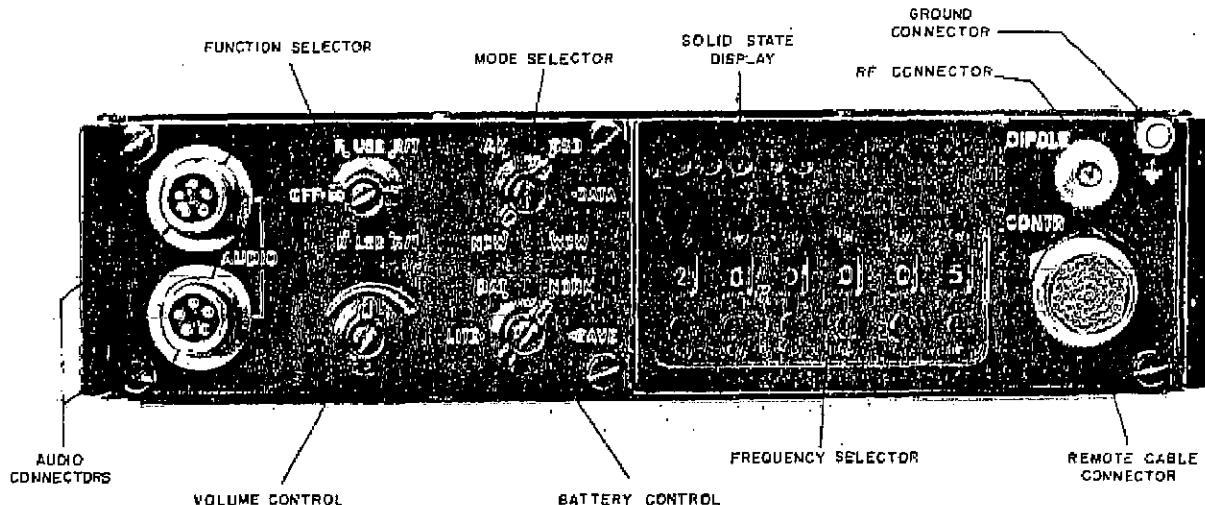

Figure 2-1. Receiver-Transmitter front control panel
This section describes operator's controls, test, status and alarm indicators and the connectors on Radio Set PRC -174. All items listed here are located on the front panel of Receiver-Transmitter RT-936/PRC-174, except the whip antenna connector, which is located on the right sidewall (when facing the front panel), and the battery connector, which is located on the rear panel (Figure 1-1). The front panel is shown in Figure 2-1. The solid state display (SSD) consists of five indicator lamps. Table 2-2 describes the display readings.
- 1) Make sure that the receivertransmitter is OFF (function selector, Figure 2-1).
connectors (Figure 2-1).
- attach one end of the wire to the ground connection (Figure 2-1).
'Note: All visual indications are given on the Solid State Display (SSD, Figure 2-1); audible indications are heard in the headset/earphones.